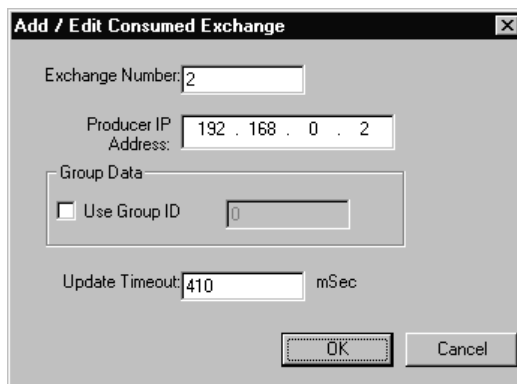

Figure 6.11 - Creating Consumed Exchange 2 - Node 1
4. Now that Exchange 1 has been configured as a Produced Exchange for Node 1, it is time to configure Exchange 2 as a Consumed Exchange for Node 1. To do this, first select the **Consumed Exchanges** tab (Figure 6.2 [page 33]) and click on the **Add Exch** button to create a Consumed Exchange. Then fill in the parameters, as shown in Figure 6.11 below, and click **OK**.